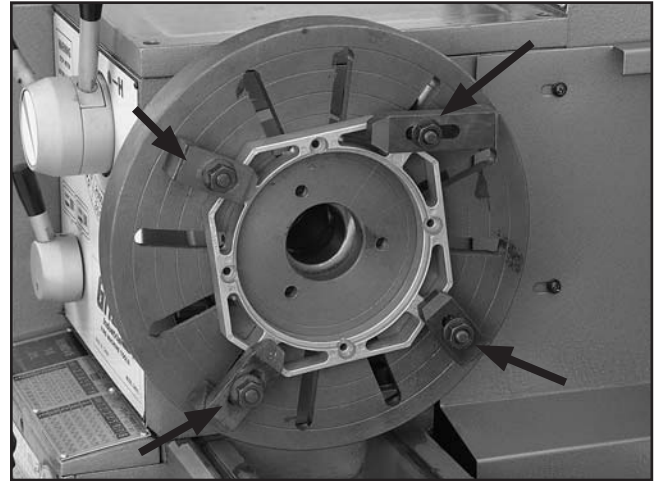

Figure 27. Faceplate with properly clamped workpiece in four locations.
4. Secure the workpiece with a minimum of three independent clamping devices (see **Figure 27**). Failure to follow this step may lead to deadly injury to yourself or bystanders. Take into account rotation and the cutting forces applied to the workpiece when clamping to the faceplate. **Make sure your clamping application will not fail!**